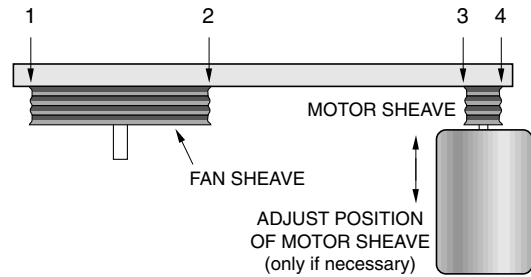

FIGURE 1
- 3.) Check sheave alignment by placing a straight edge across both sheaves at the same time. There should be four points of contact between the sheaves and the straight edge. (See figure 1.)